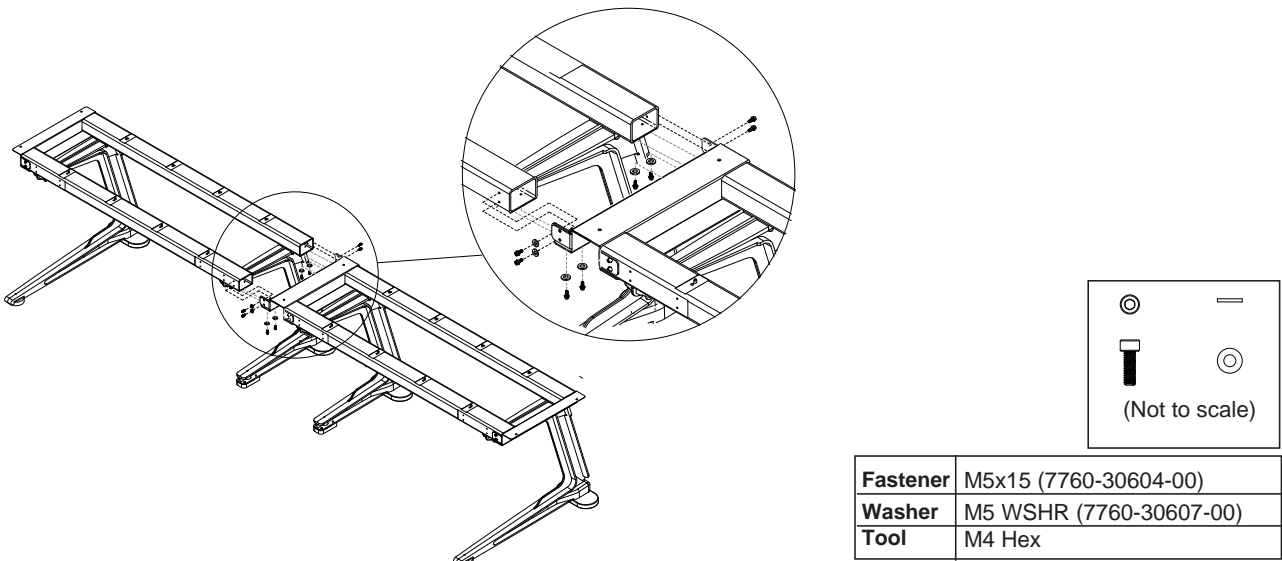

Figure 18. Detaching the left frame from the Center Bracket
- 1 Detach the left frame from the bracket by removing the eight fasteners and washers (see Figure 18).